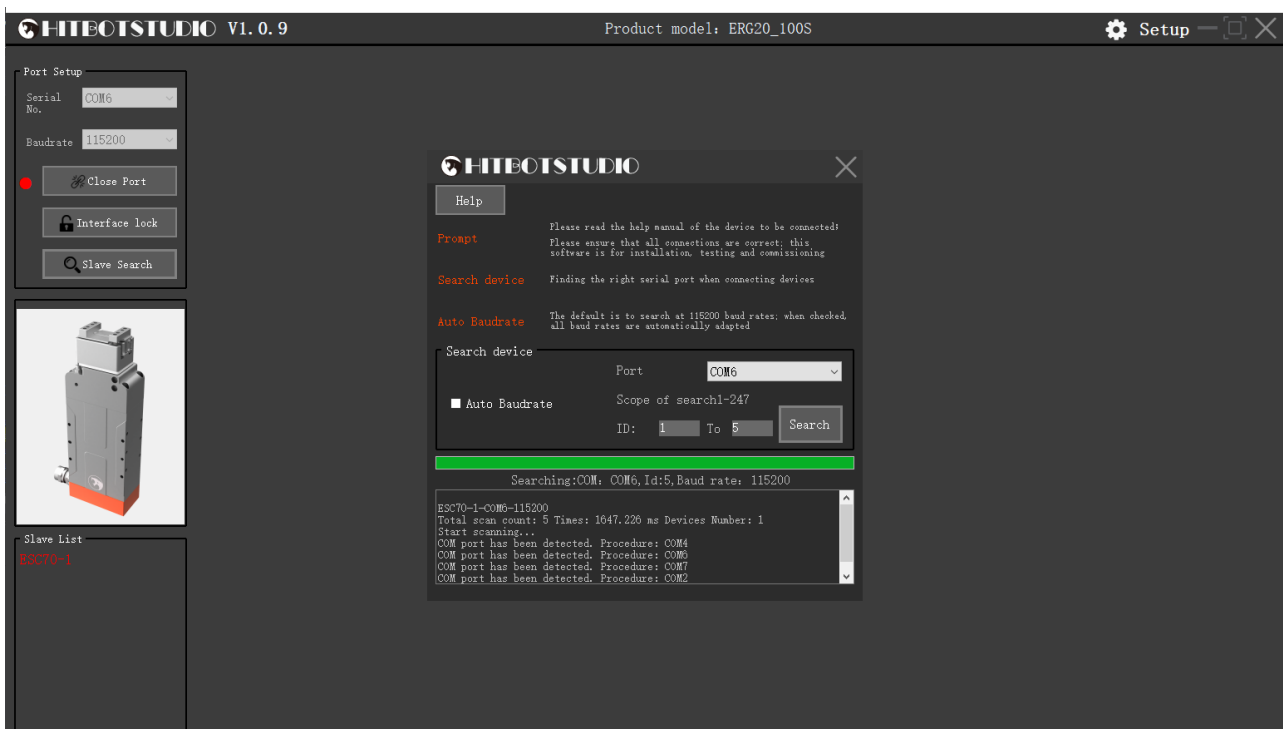

Figure 3-57 (Suction Cup Module)
1. After searching and finding the vacuum device in the device search module, users can click on the corresponding device in the slave list, and the HMI will enter the vacuum module interface. Figure 3-57 shows the interface for the discovered vacuum device.